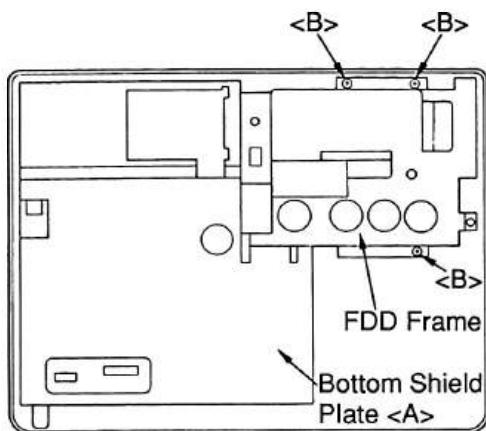

Figure 16
- (1) After removing the main PCB, gently lift up the bottom shield plate <A> from the bottom case as shown in Figure 16.
- (2) Remove three screws  (3Øx8) fixing the FDD frame as shown in Figure 16.